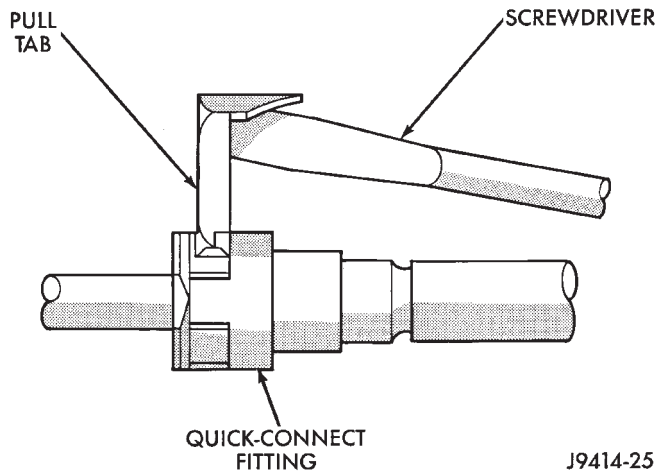

Fig. 16 Disconnecting Single-Tab Type Fitting
(5) While pressing the release tab on the side of the fitting, use a screwdriver to pry up the pull tab (Fig. 16).